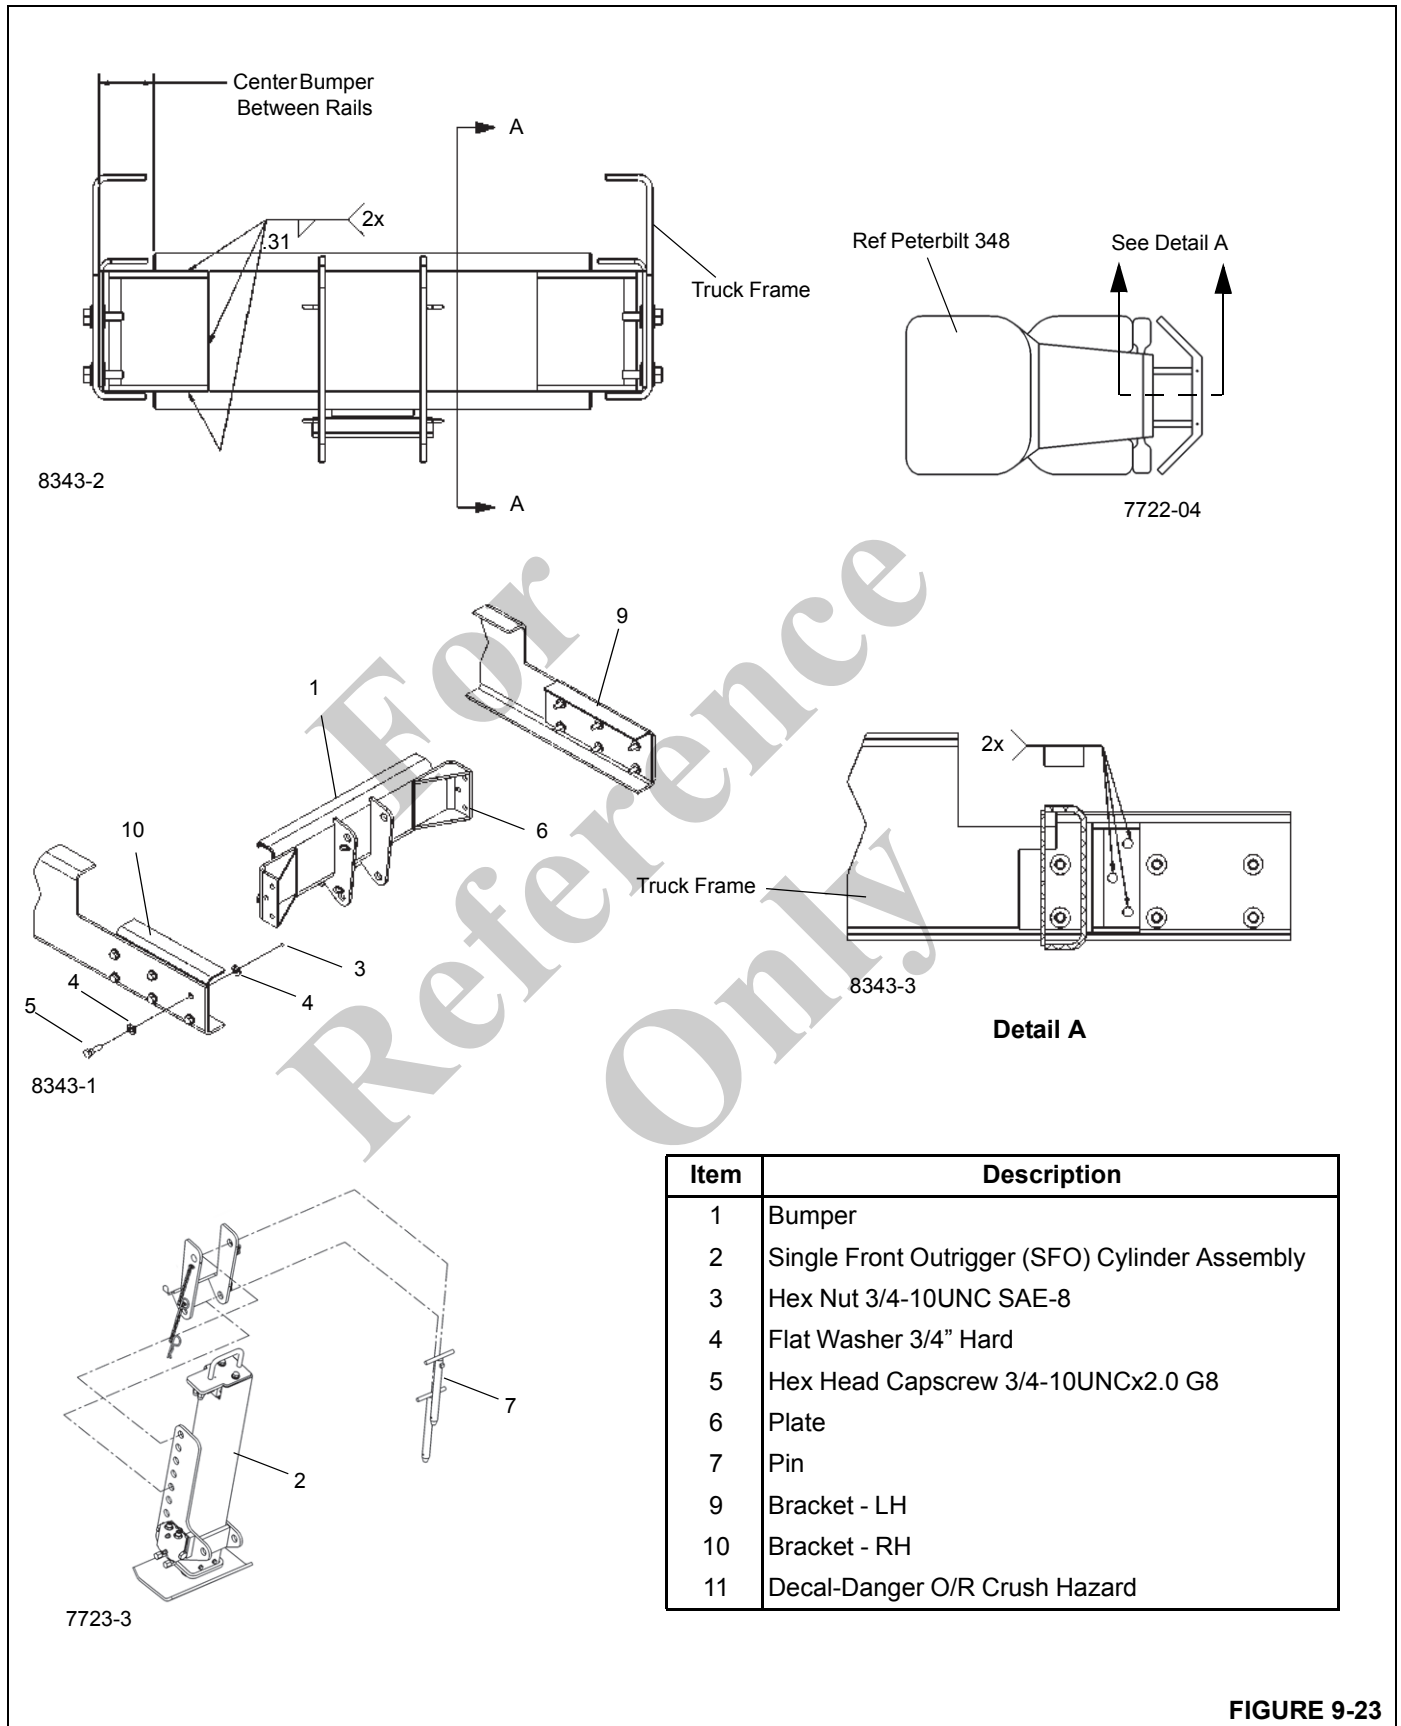

FIGURE 9-23
3. Attach the mounting plates (6) to the truck frame rails.
4. Center the bumper (1) horizontally between the frame rails, then vertically such that there is a ground clearance between 355 to 482 mm (14 to 19 in) under the front jack. Tack weld the bumper to the mounting plates.
5. Remove the mounting plate/bumper assembly from the truck, then finish welding the mounting plates (6) to the bumper (1) following the weld requirements found on the drawing in Figure 9-23; all welds to be grade 90.
7. Attach the jack (2) to the bumper (1) using the two pins (7).
**FIGURE 9-23 continued**